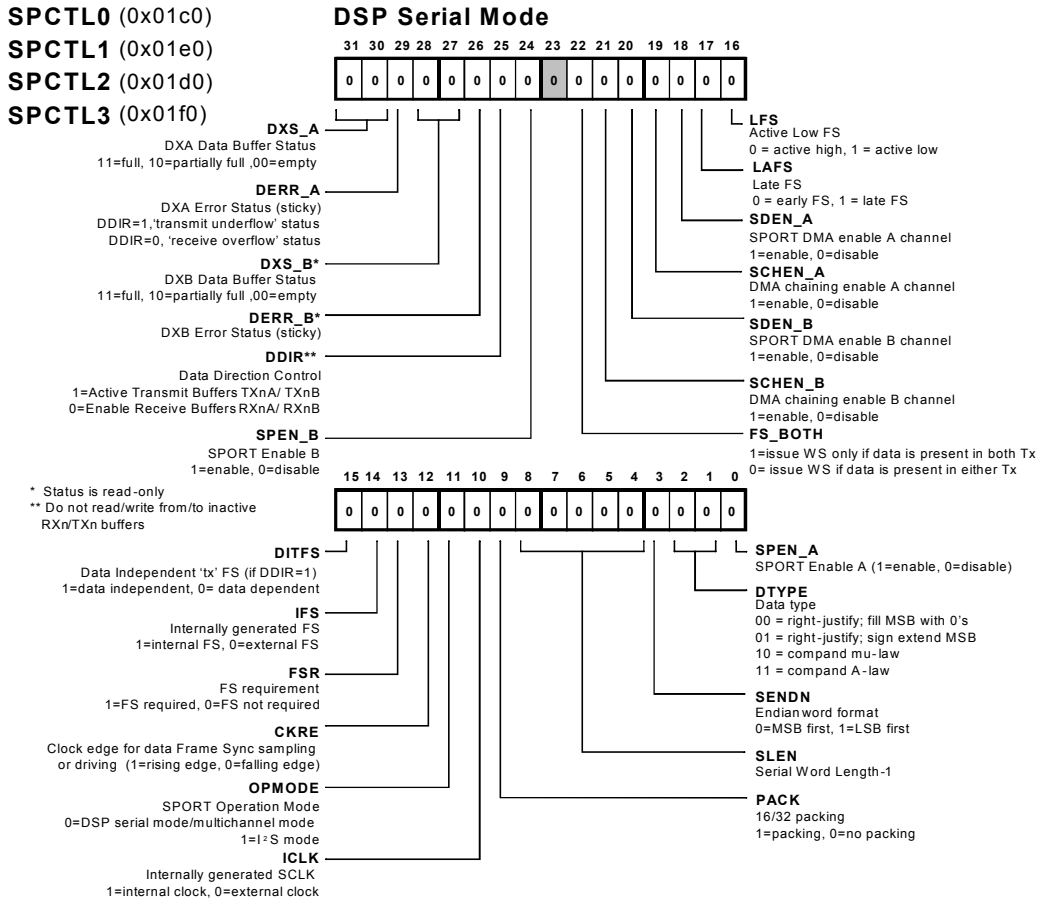

Figure A-31. SPCTL Register - DSP Serial Mode
- Figure A-31 on page A-121 provides bit definitions for the SPCTLx register in serial mode.